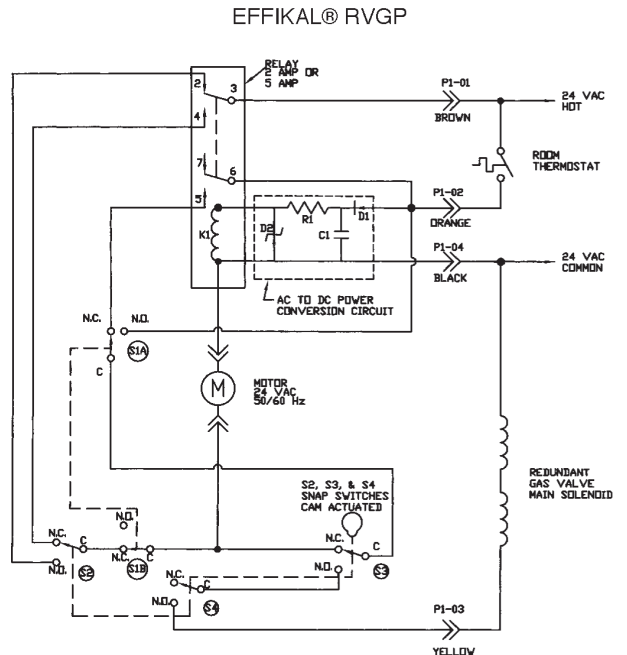

Figure 19. Connection Diagram for Effikal® Vent Damper
1. When the boiler is off, check that the vent damper position indicator points to the closed position. See **Figure 19**.
2. Turn the thermostat or controller up to call for heat and check that the vent damper indicator points to the open position. See **Figure 19**.